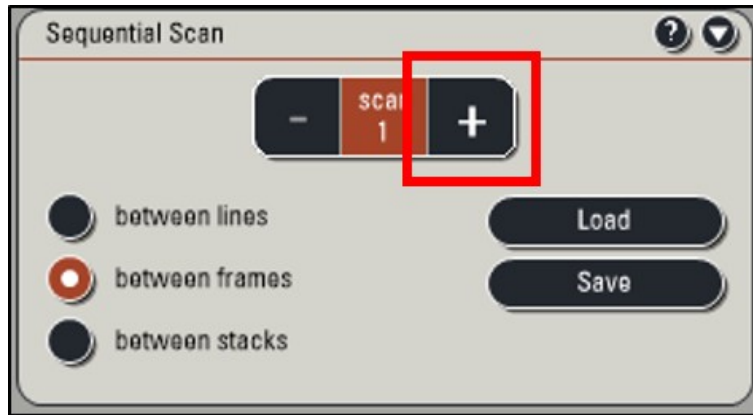

Figure 12: Add sequences, save/load sequence files, control when the sequences change.
2. This will open the **Sequential Scan** tab. See Figure: 12